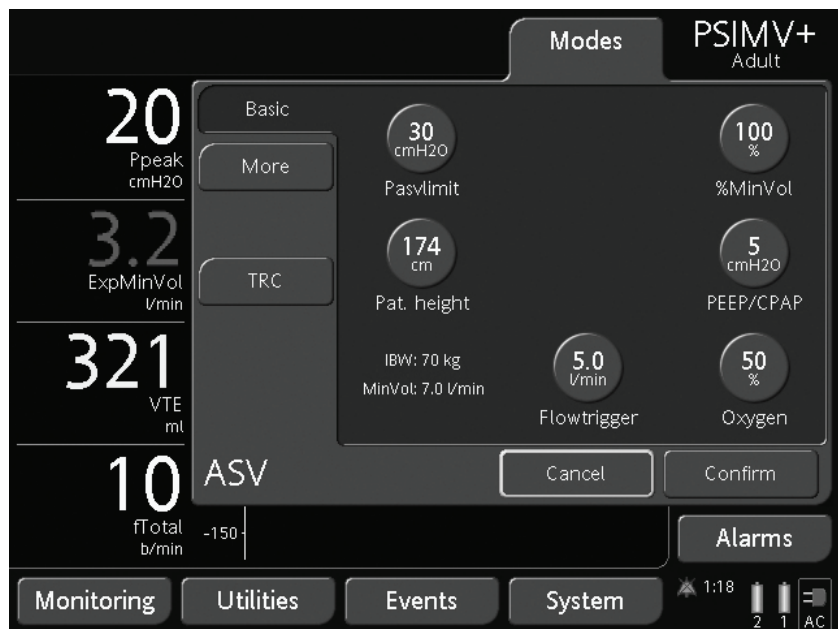

Figure 4-8. Basic window during mode change (ASV mode change)
- In addition to control settings, the **Basic** window displays breath timing parameters determined from timing control settings; see Figure 4-8.
After you select a different mode, the **Basic** window automatically opens (Figure 4-8). Review and confirm these proposed settings or the mode change will not be accepted.